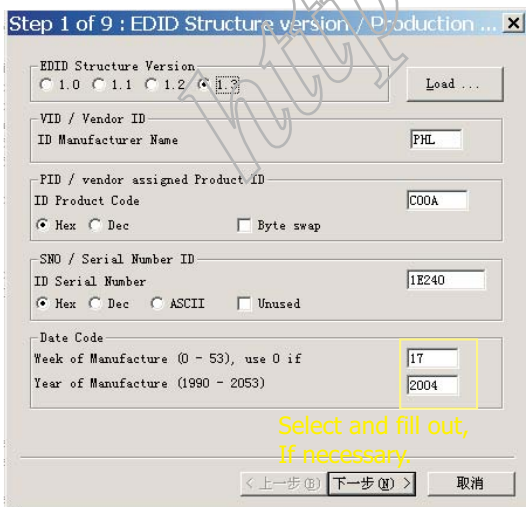

Fig. 13
1. Click (new function) icon from the tool bar, bring up Step 1 of 9 as shown in Fig. 13.